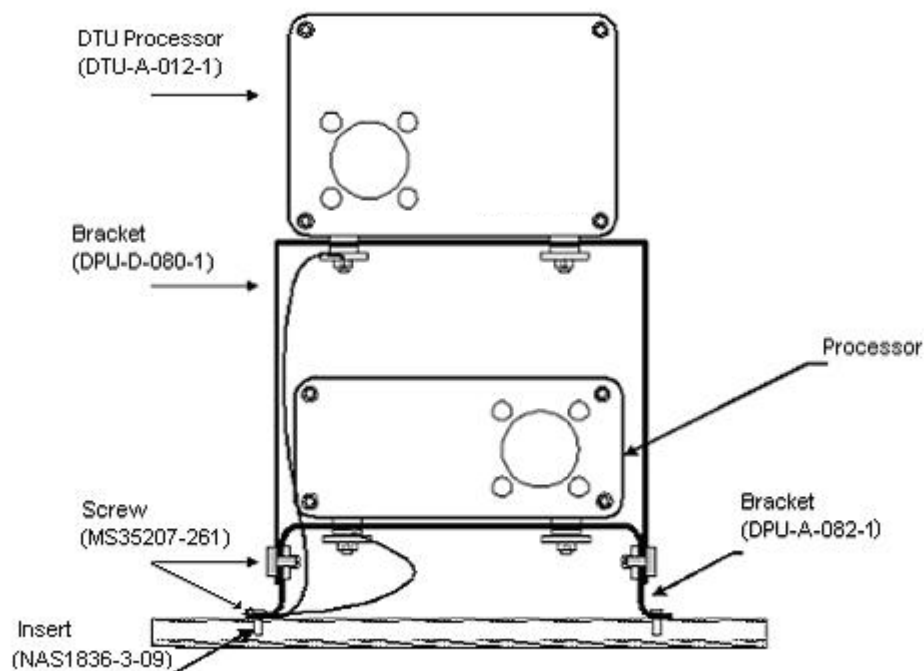
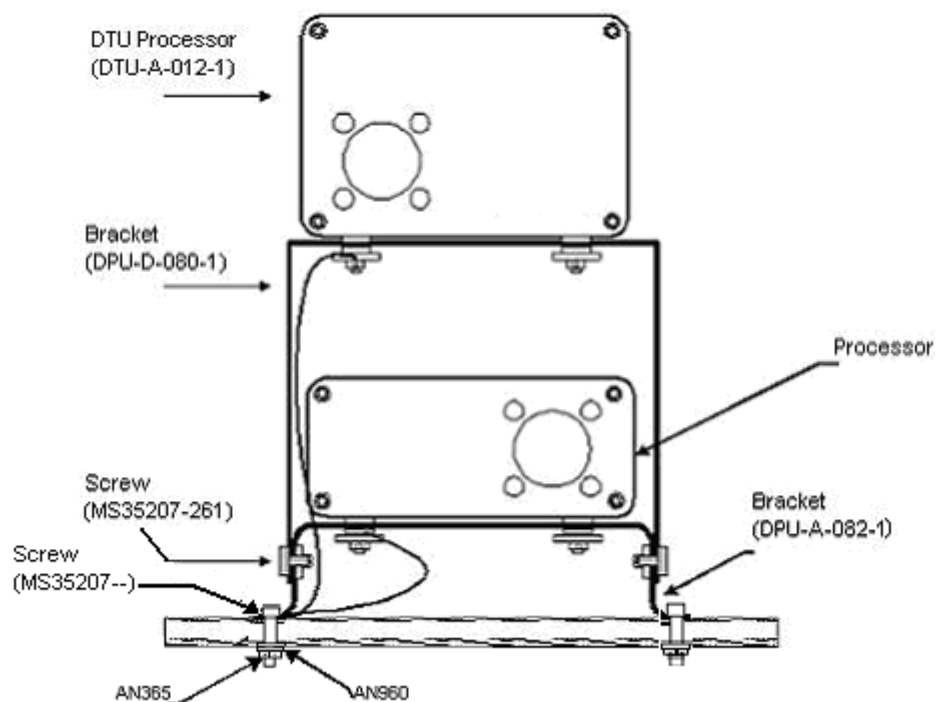

Figure B- 3: "Double Stack" Mounting Configuration – Honeycomb/Sandwich Panel
Figure B- 4: “Double Stack” Mounting Configuration – Metal Skin
1. If the current location of the Gen III processor has sufficient space the DTU can be mounted in the "Double stack" configuration. Refer to Figure B- 3 or Figure B- 4.
- ☐ 070 Assemble the "Double Stack" mounting bracket and install the Gen III processor and the DTU processor. Refer to applicable Figure B- 3 or Figure B- 4
- ☐ 020 Attach the DTU and the "Double Stack" mounting bracket to the Gen III processor bracket using the required hardware. Refer to applicable Figure B- 3 or Figure B- 4